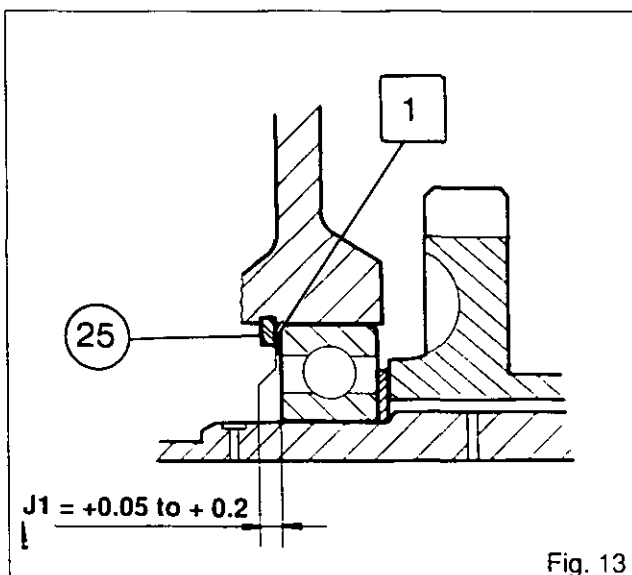

Fig. 13
- units with speedshift (Fig.13).